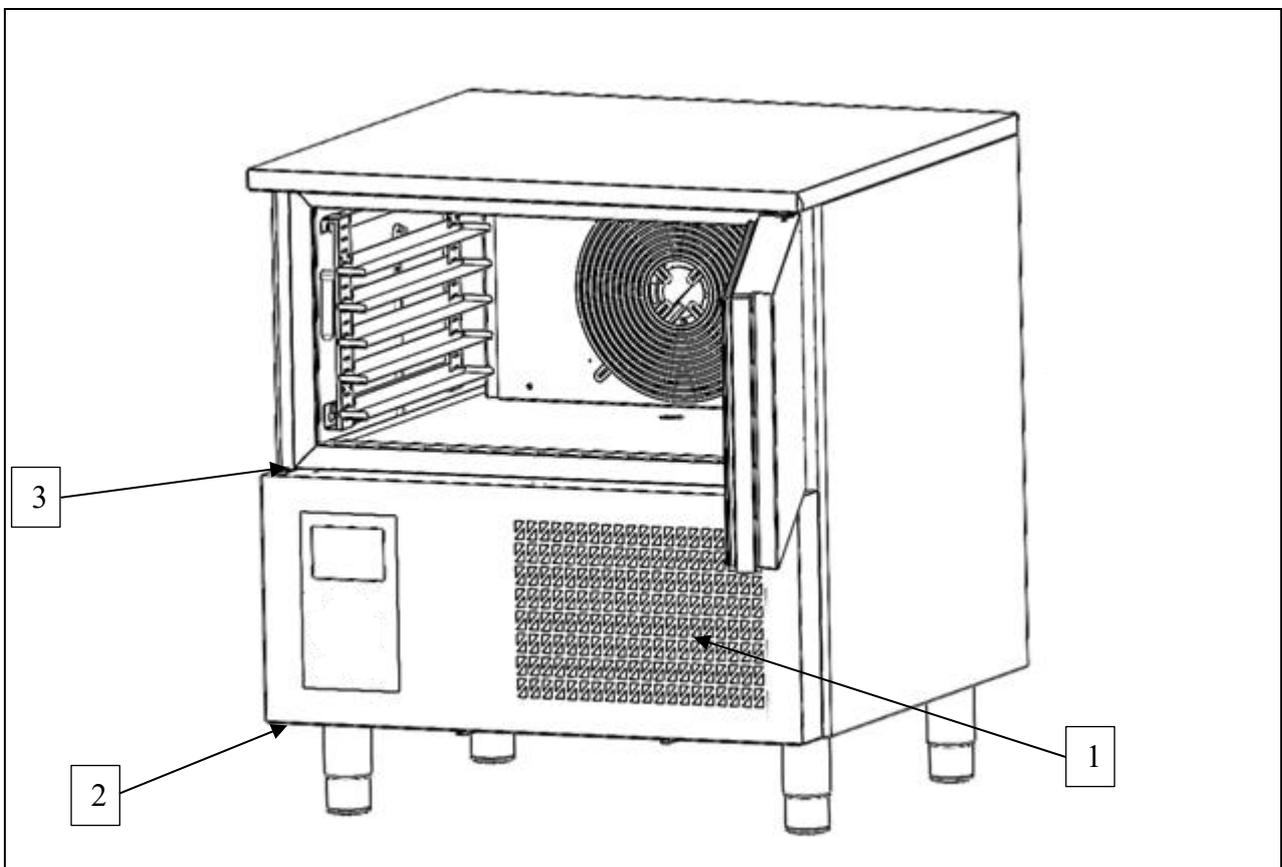

Fig. 9
To ensure that the appliance works properly and efficiently, the air condenser (ref. 1 fig. 9) must be kept clean so that the air can circulate freely. This operation should be carried out every 30 days. Remove the control panel by loosening the screws (ref. 2 and 3 fig. 9). Clean with a non-metal brush to remove all the dust and fluff from the fins. It is advisable to use a vacuum cleaner so that dust does not float in the air. If there are greasy deposits, eliminate with a brush soaked in alcohol. **DO NOT SCRAPE THE SURFACES WITH POINTED OR ABRASIVE OBJECTS.**